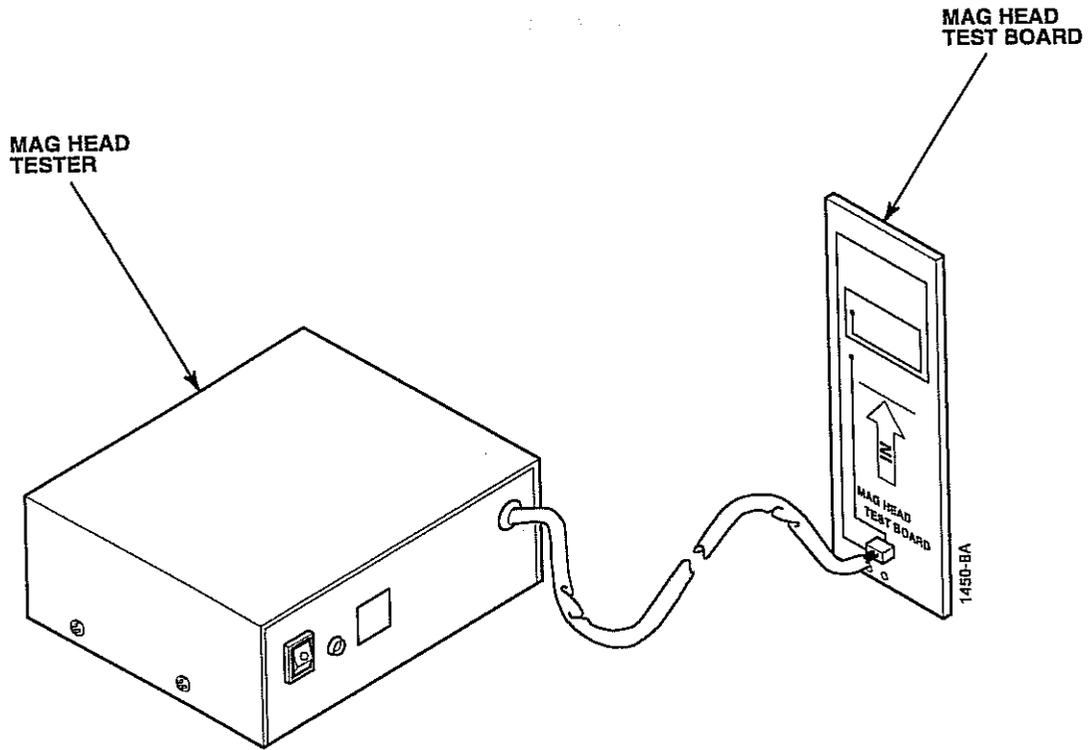

Figure 3-2. MG-03 Magnetic Head Tester with Board.
- MG-03 magnetic head tester with board (Figure 3-2)